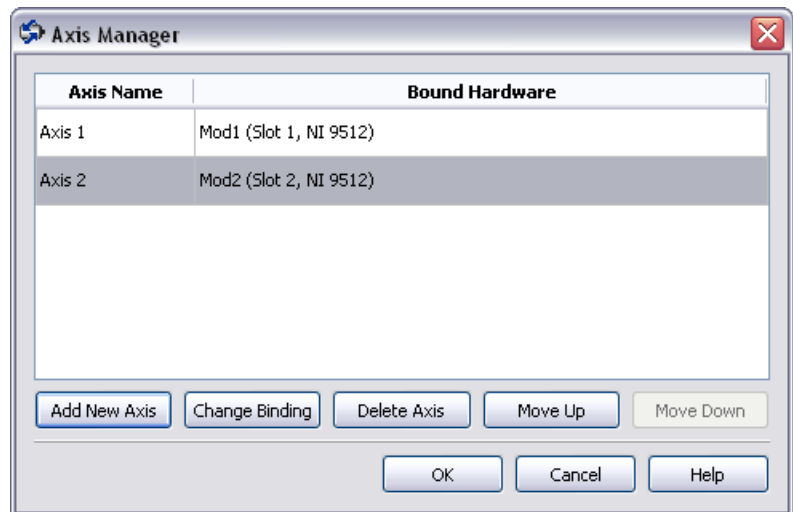

Figure 3. Axis Manager Dialog Box
1. Right-click the target in the **Project Explorer** window and select **New»NI SoftMotion Axis** from the shortcut menu to open the **Axis Manager** dialog box, shown in Figure 3.